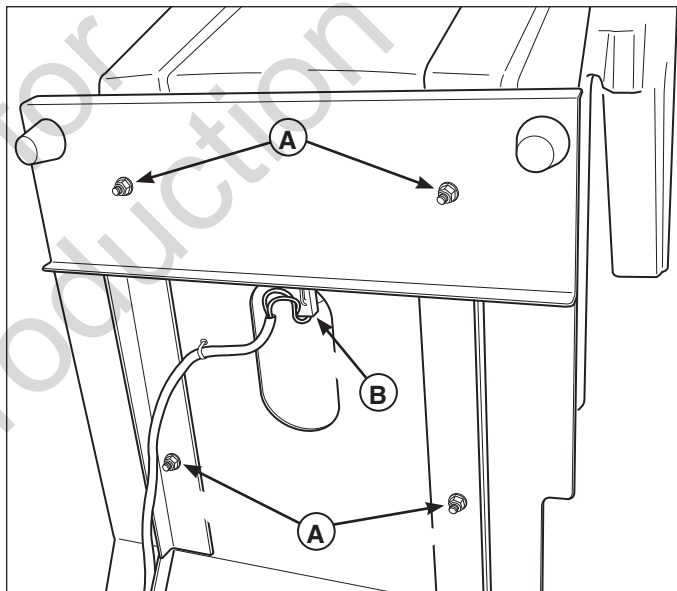

Figure 5. Install Seat & Connect Harness
2. Install the seat onto the seat mount plate and secure with the 5/16-18 nylock flange nuts (A, Figure 5).
3. Connect the seat switch wire harness (B, Figure 5) to the seat switch.